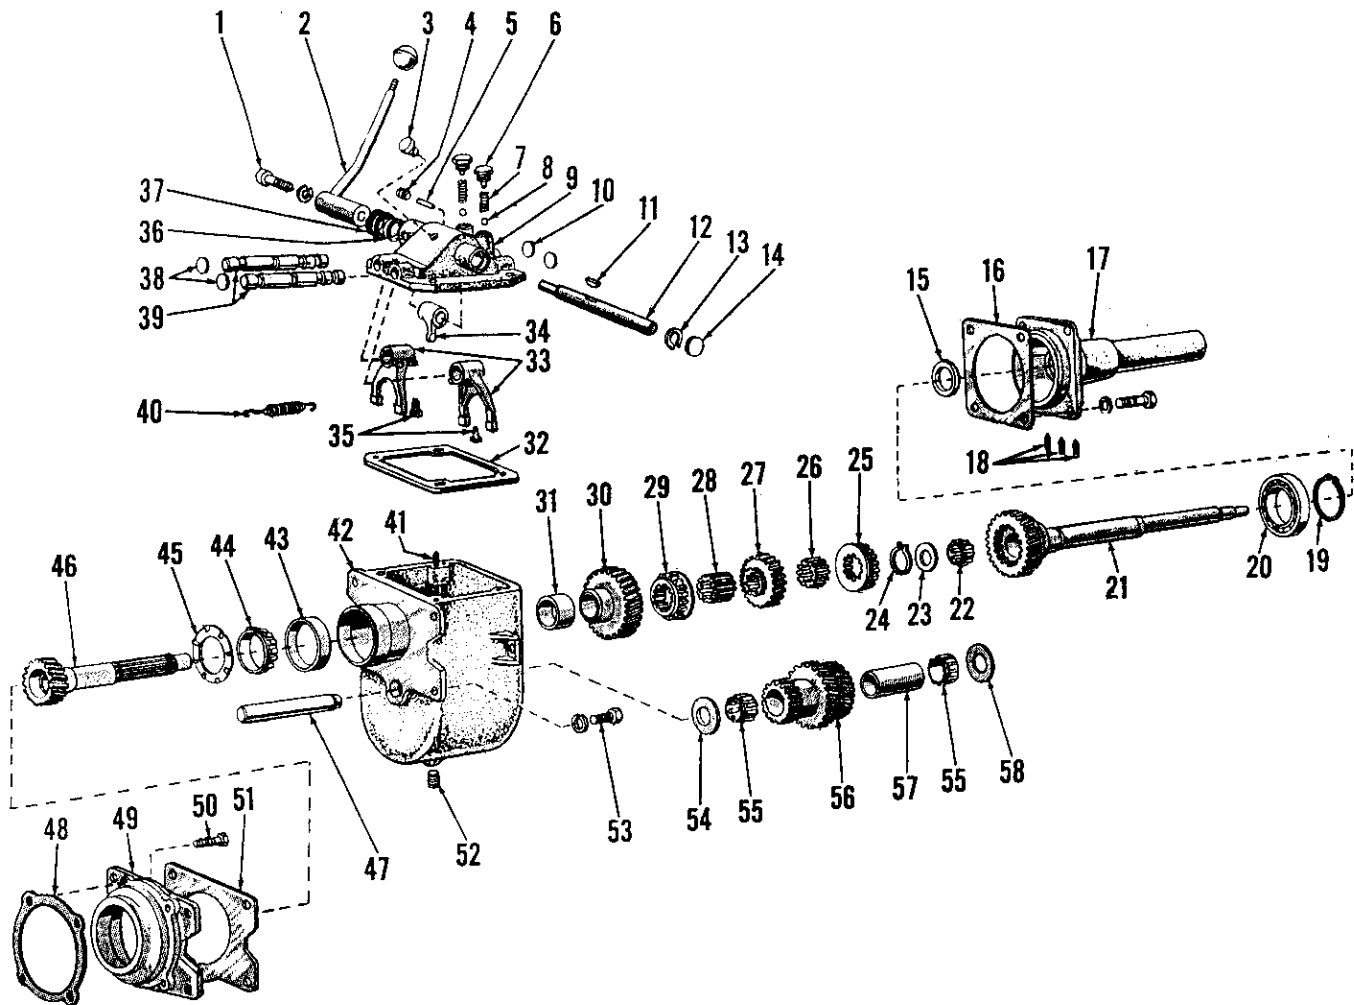

Fig. 182—Exploded view of auxiliary transmission that is available for installation in models with standard shift four-speed transmission.
186. Separate (split) tractor between engine and transmission housing as outlined in paragraph 181. Disconnect the clutch release bearing springs (40—Fig. 182) and remove the bearing. Drain the auxiliary transmission and main transmission. Remove the socket head screw (1) from auxiliary transmission shift lever (2) and remove the lever. Then, unbolt and remove the auxiliary transmission from mounting flange (49) on front of main transmission housing.
187. **SHIFTER RAILS AND FORKS.** To remove shifter rails and forks, the auxiliary transmission must be removed as outlined in paragraph 186. Refer to Fig. 182, remove the retaining cap screws and lift shifter cap assembly (9) from gear case. Remove the two detent caps (6), detent springs (7) and detent balls (8) from shifter cap. Remove lock wires and the drilled head set screws (35) from shifter fingers (forks) (33). Remove the Welch plugs (38) from the shifter rod bores at the rear of the shifter cap, then drive the shifter rods (39) out the front of shifter cap. Remove the set screw (4) from the interlock bore and remove the interlock (5). Remove the snap ring (13) from the groove on the selector shaft (12) and slide the selector fork (34) and snap ring toward the end of the selector
189. **CLUTCH SHAFT.** With tractor separated (split) as in paragraph 181 and the unit drained, the clutch shaft (21—Fig. 182) can be removed by unbolting the support (17) and pulling the support and clutch shaft assembly from the gear case. Remove the roller bearing (22) and the thrust washer (23) from the pilot end of
thrust washer (23), then the roller bearing (22) on the pilot end of drive shaft (46) and using new gasket, install the front support and clutch shaft assembly removed as in paragraph 189, refer to Fig. 182 and remove snap ring (24) from drive shaft (46). Then remove front shift collar (25), short spline sleeve (26), step-up gear (27), rear shift collar (29), long spline sleeve (28), step-down gear (30) and spacer (31) from drive shaft.
190. DRIVE SHAFT. With the shifter cap assembly removed as in paragraph 187 and the front support and clutch shaft assembly removed as in paragraph 189, refer to Fig. 182 and remove snap ring (24) from drive shaft (46). Then remove front shift collar (25), short spline sleeve (26), step-up gear (27), rear shift collar (29), long spline sleeve (28), step-down gear (30) and spacer (31) from drive shaft. NOTE. Identify shift collars (25 and 29) so they can be reinstalled in their proper positions. Pull the drive shaft,
192. **CLUSTER GEAR AND SHAFT.** Remove the drive shaft assembly as outlined in paragraph 190. Refer to Fig. 182 and drift the cluster shaft (47) out toward rear of gear case and catch cluster gear (56) and thrust